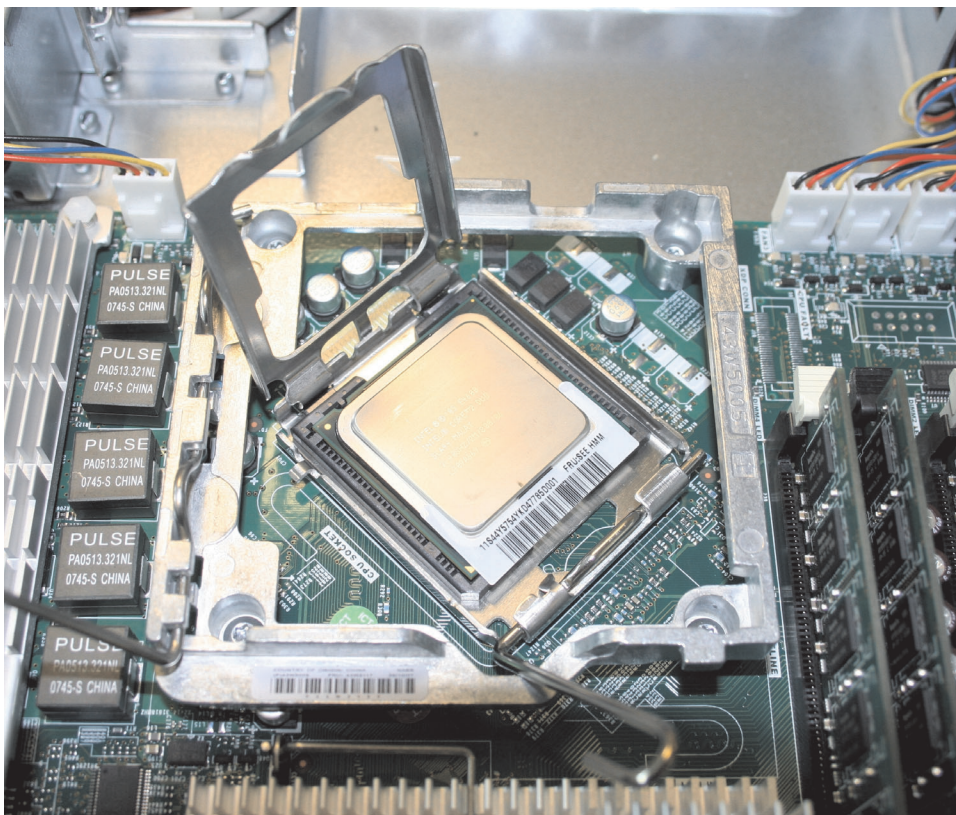

Figure 292. The SAN Volume Controller 2145-8A4 microprocessor bracket frame fully opened
2. Orient the microprocessor retention module as shown in Figure 292.